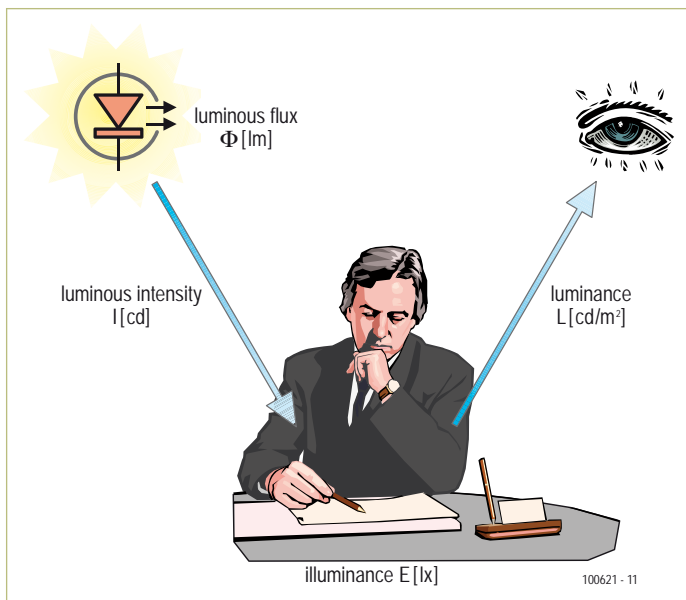

Figure 1. This drawing shows the relationships between the various light units.
**Figure 1** shows the relationships between these units based on a desk which is illuminated by an (LED) lamp.